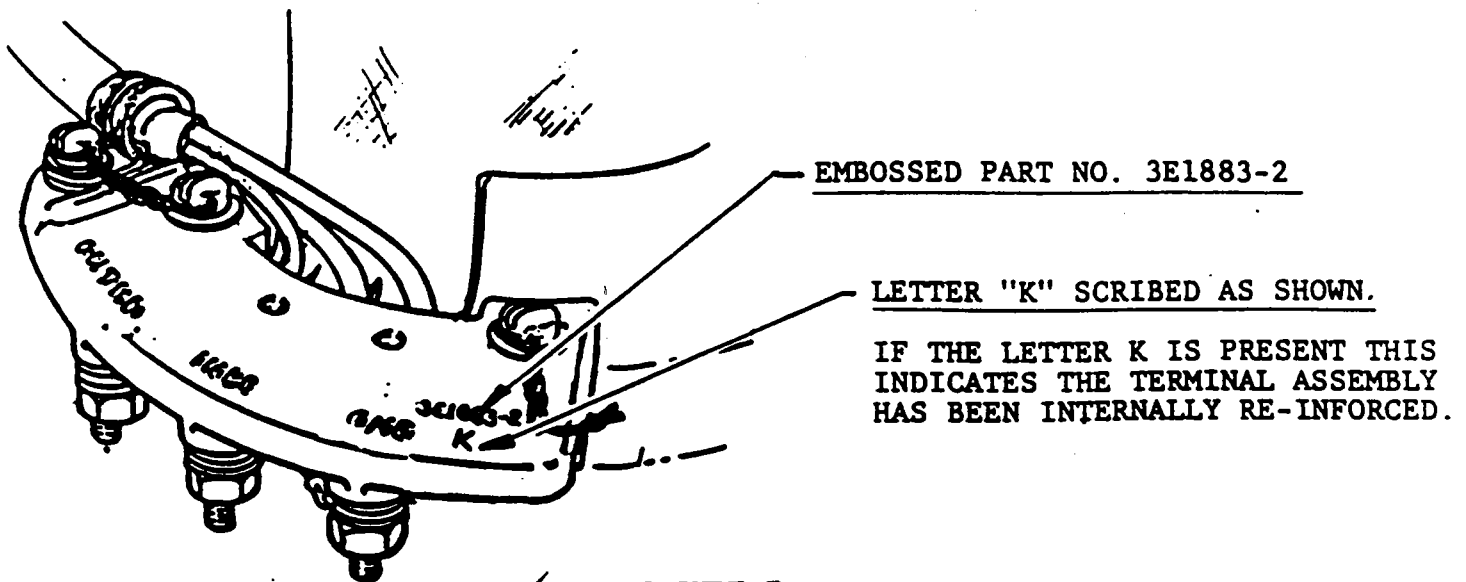

FIGURE 1a
- b) If the terminal clamp assembly is lightgray and has the letter K scribed below the part number (Ref. figure 1a), it is factory reinforced.